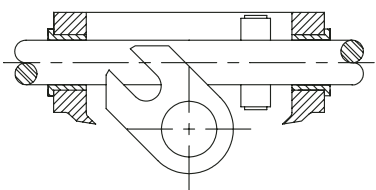

Figure 7
- Rotate piston rod 90° to allow access to retaining ring (11) as shown in figure 7.
- Remove retaining ring and bearing (10). Then rotate piston rod shaft 180° and remove remaining bearing and thrust pin assembly.
- Remove piston rod (4) and piston rod bushings (7).
- D. Lubricate with WD-40 and install piston rod (4) being careful not to scratch sealing surfaces when sliding through yoke assembly.
- E. Swing yoke clear toward left side of housing as shown in figure 7.
- F. Sub-assemble thrust pin (9) with one roller bearing (10) and one retaining ring (11). Pre-lubricate sub-assembly with high temperature grease such as "Whitmore's Omnitemp II".
- G. Install roller bearing sub-assembly per figure 7. Rotate piston rod 180° and assemble second roller bearing and retaining ring. Place ample amount of high temperature grease on roller bearing and inside wear area of yoke.
- H. Engage roller bearing in yoke assembly as shown in figure 7, 6, & 5.
- I. Install plug (12) in back of housing if applicable. Use "Loctite 222 Thread Locker".